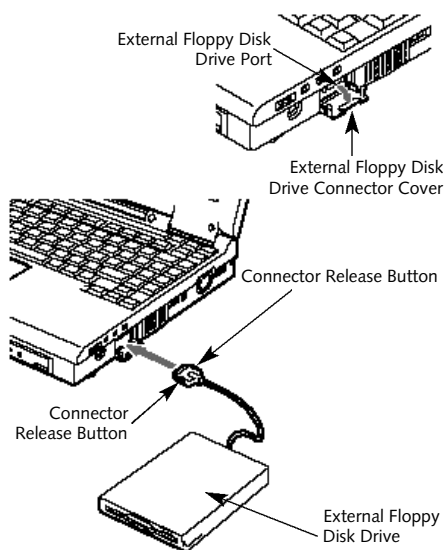

Figure 4-10 External Installation of a Floppy Disk Drive.
3. Open the external floppy disk drive port cover on the right side panel of your notebook, (see Figure 4-10), by gently pulling on the left side of the cover and then tilting it down.
4. Align the connector of the external floppy disk drive with the connector towards the body of your notebook with the wide side of the connector up. (Figure 4-10)
3. Squeeze together firmly on the release buttons on either side of the external floppy disk drive connector next to the body of your notebook. (Figure 4-10.)